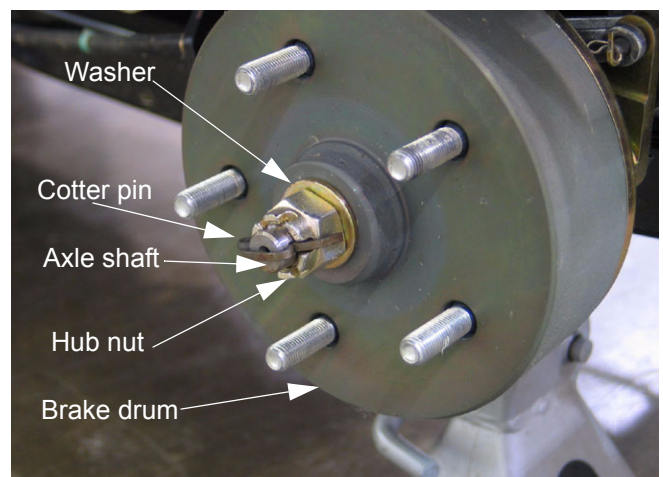

Figure 2.11
- 2.11. Using a 27 mm wrench, remove the hub nuts and washers. See Figure 2.11.